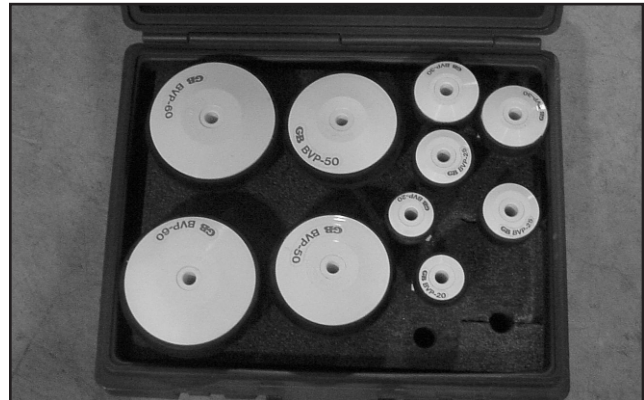

Figure 3. PVC Plug Set
**Important:** Conduit and ducts 2" diameter and larger may crimp or deform during bending unless the inside is supported. HotBox™ Expanding Bending Plugs are designed for this purpose. See Figure 3.